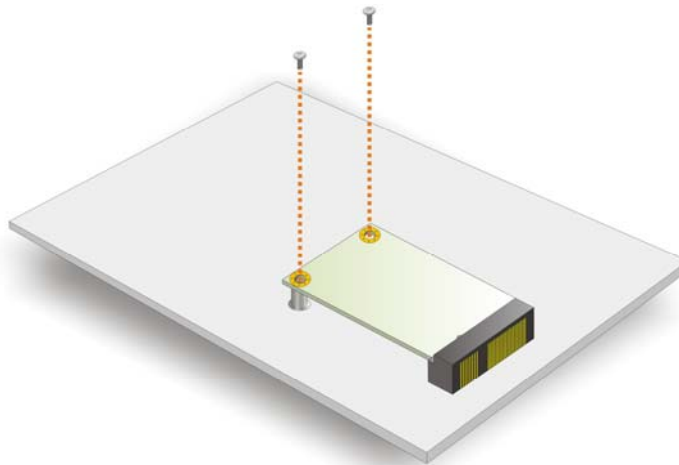

Figure 3-5: Securing the PCIe Mini Card
Step 4: **Secure the PCIe Mini card.** Secure the PCIe Mini card with the supplied retention screws (Figure 3-5).